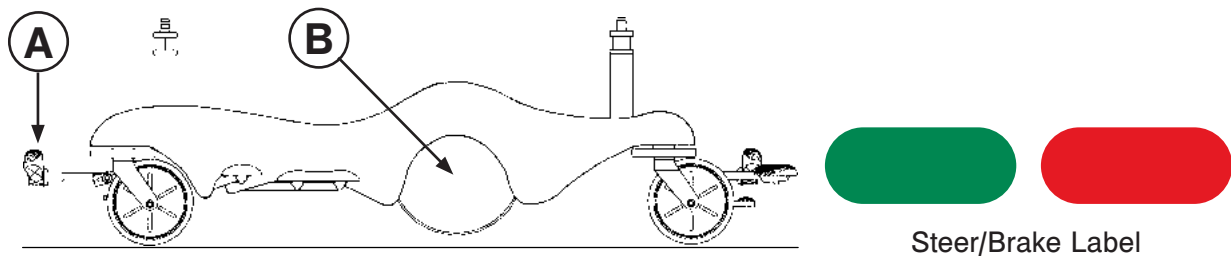

Figure 14: Neutral or Brake Position
When the brake/steer pedal (A) is in the neutral or brake position, the Big Wheel (B) is elevated approximately 3/4" and the stretcher rests on the four casters as shown in Figure 14. See page 25 for pedal operations.
With the pedal (A) in the neutral position, the stretcher can be moved in any direction including sideways as shown in Figure 14. See page 25 for pedal operations.